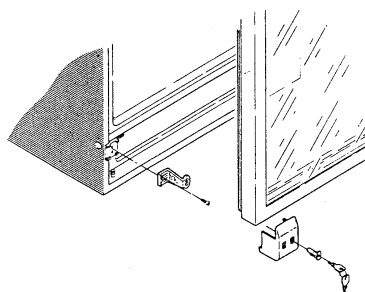

Fig. 5
6. The door is mounted (see fig. 5) and the top hinge is mounted as shown and turned 180° counter-clockwise and fastened.